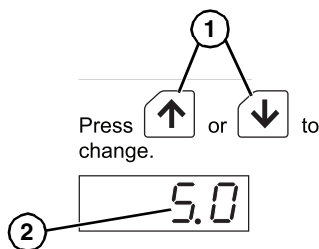

Figure 29
6. Press up or down (**Figure 29, item 1**) to change the acceleration time (e.g., 5.0) (**Figure 29, item 2**). Pressing and holding the key for 3 seconds or more will increase or decrease the value successively